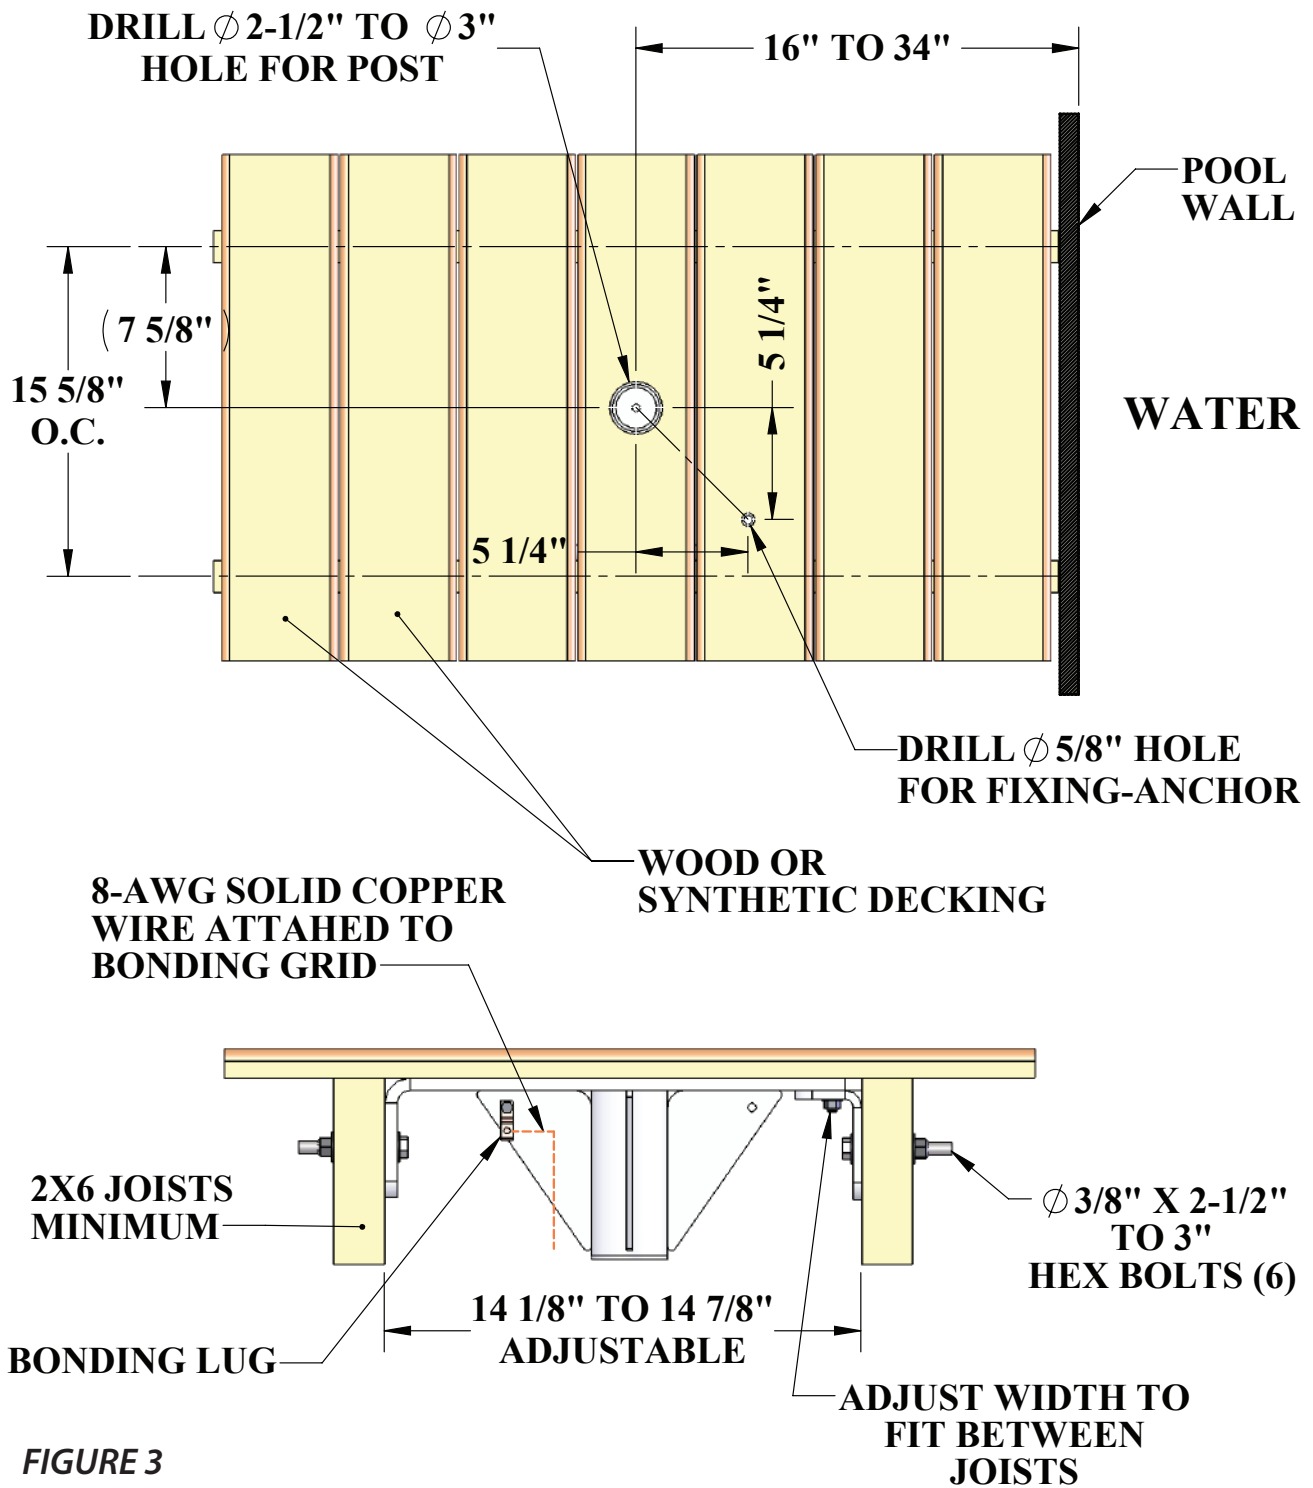

FIGURE 3
Refer to FIG 3 on the next page for the following step-by-step instructions:
2. Before drilling the main hole, measure 5 1/4" over and 5 1/4" down (See FIG 3 on page 4) and mark the 5/8" hole center for the fixing anchor.
5. Mark the center of the six (6) holes for the mounting brackets.